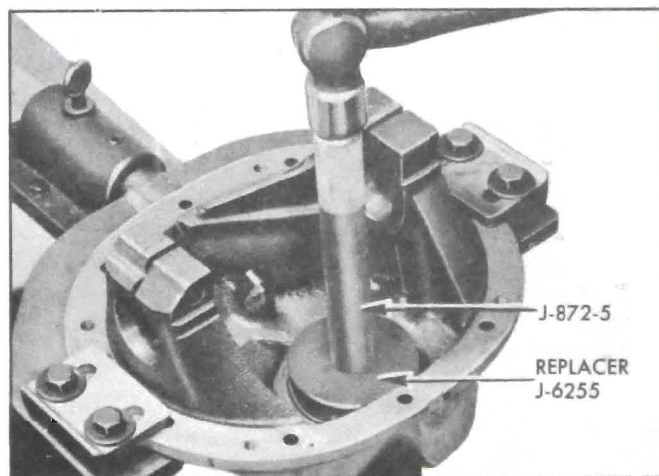

Figure 6-21—Installing Rear Pinion Bearing Outer Race
2. Drive rear pinion bearing outer race against shoulder in carrier using Replacer J-6255 with driver handle. See figure 6-21.